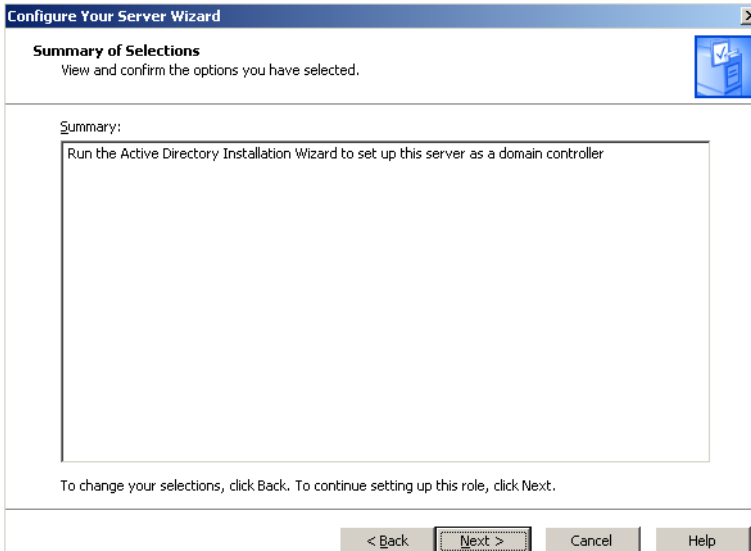

Figure D-5 Summary of Selections dialog
6. Verify your selection displayed in the **Summary of Selections** listing shown in figure D-5, then click the **Next** button to proceed.